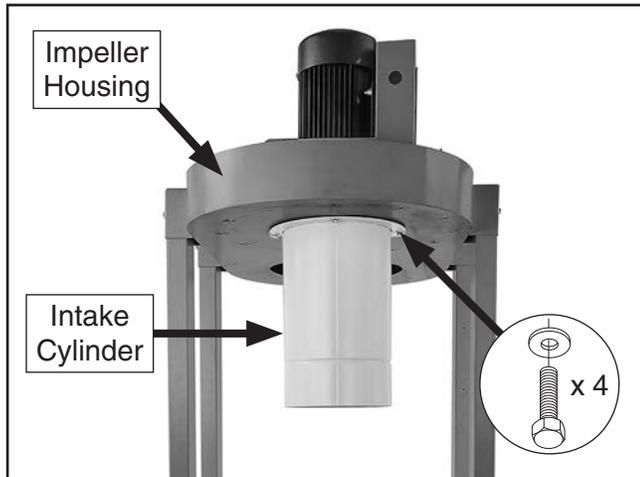

Figure 20. Intake cylinder installed.
18. Attach intake cylinder to impeller housing using (4) $\frac{5}{16}$ "-18 x $\frac{3}{4}$ " hex bolts and (4) $\frac{5}{16}$ " fender washers (see **Figure 20**).